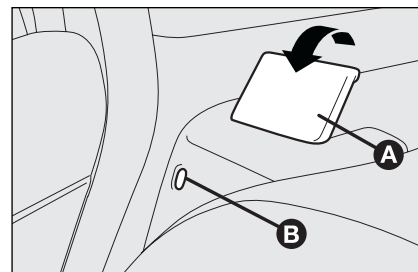

fig. 92
Lift the seat backs and push them backward until both coupling mechanisms click in place, check that the “red band” **B-fig. 92** at the side of levers **A** is no longer visible.
*Make sure the seat back is correctly hooked on both sides (“red bands” **B-fig. 92** not visible) to prevent seat back being thrown forwards and injuring passengers should you brake sharply.*